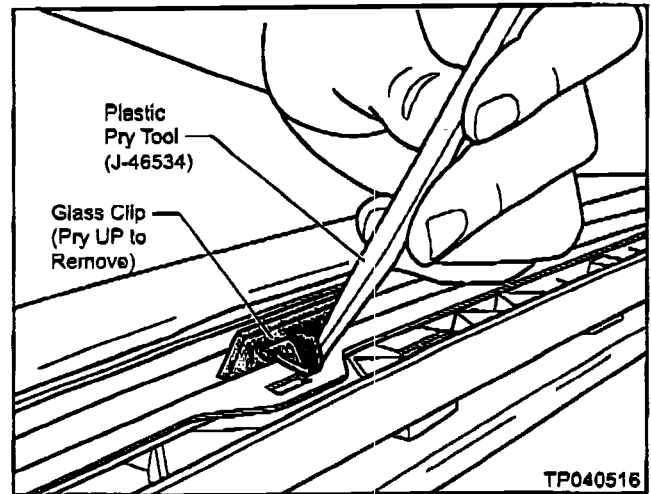

Figure 5
6. Use a Plastic Pry Tool (J-46534 or equivalent) to remove the Plastic Glass Clips from the vehicle body (see Figure 5).